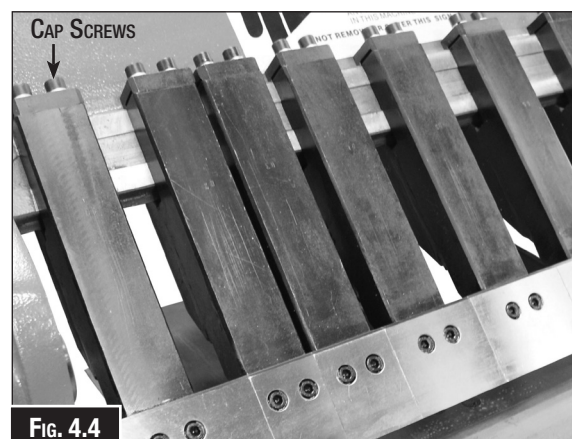

Fig. 4.4
2. Align the remaining fingers and secure them by tightening the cap screws. (Fig. 4.4)